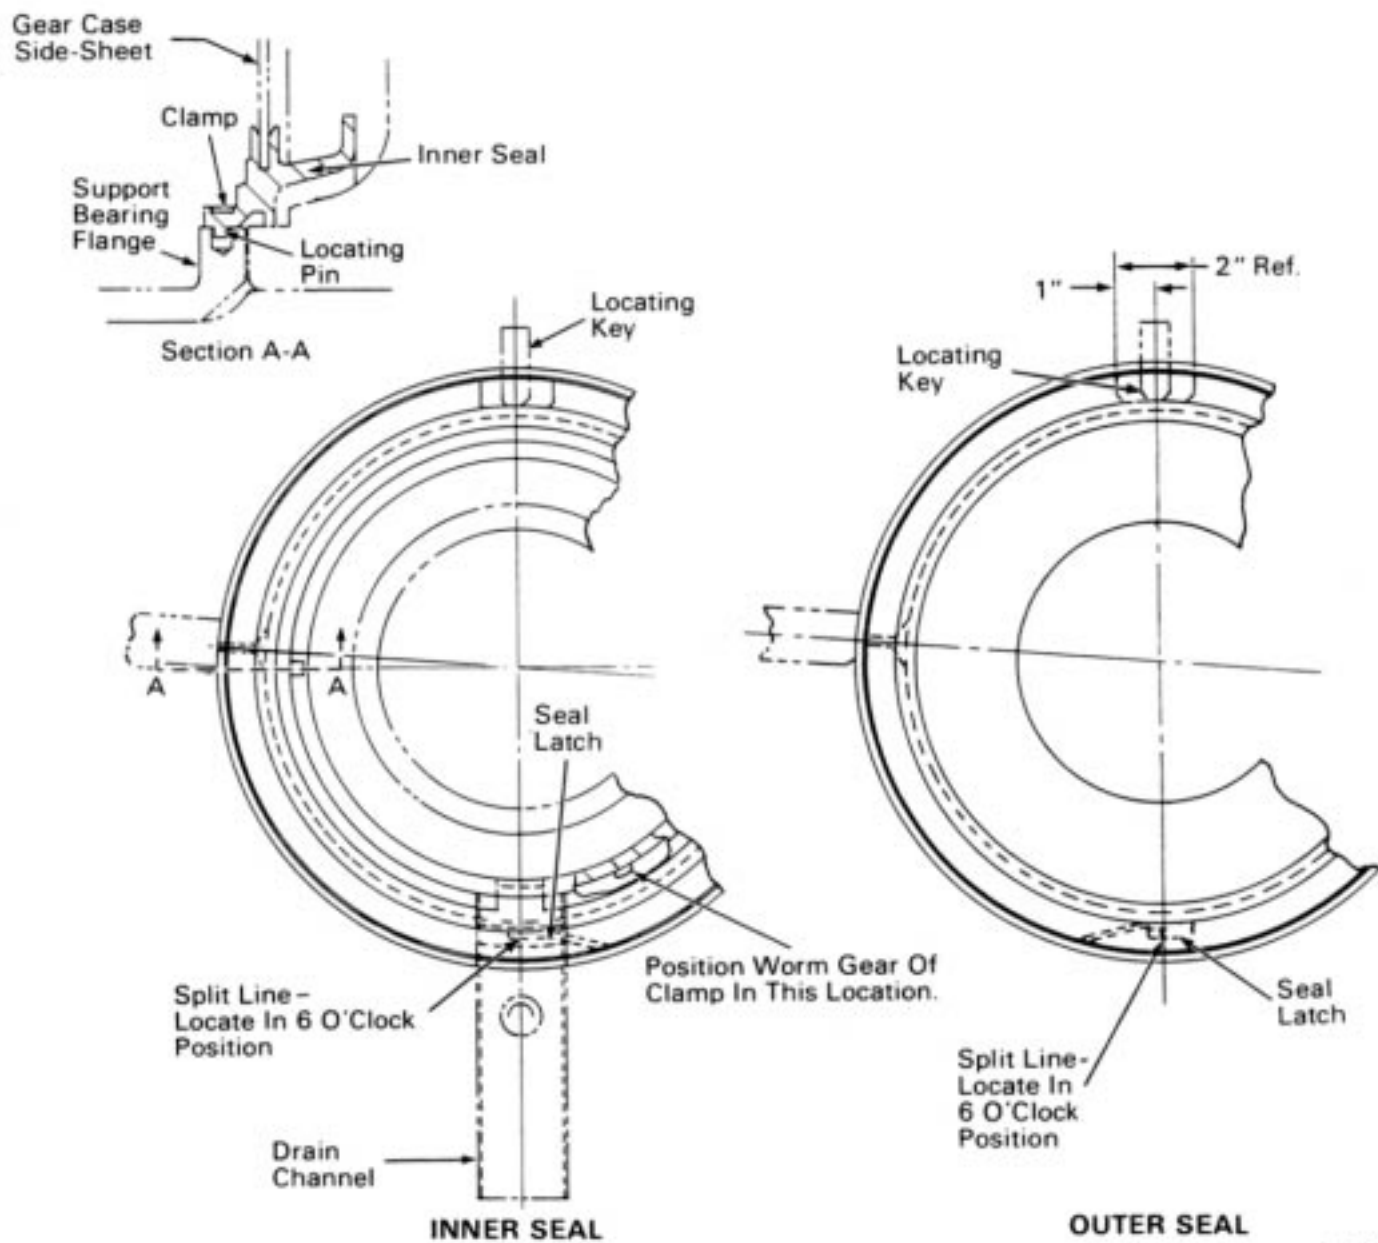

Fig.11 - Plastic Seal Position On Gear Case
4. Position the seal latches at the 6 o'clock position, Fig. 11. The pins on the inner seal should be engaged with the holes in the support bearing flange. The notch on each seal should engage with the locating keys on the upper gear case when the case is installed. Ensure the lip on the outer seal will ride on the wheel hub and not folded under. Fasten the seal latches.
5. Apply seal clamp to the inner seal, holding the seal to the support bearing flange. Ensure the worm gear of the seal clamp is positioned as shown in Fig. 11 and tighten clamp. The clamp is tightened down completely after the gear case is installed.
4. On current model gear case, carefully install upper gear case, making sure the locating keys engage the slots in the plastic seals, as shown in Fig. 11. Ensure the gear case side-sheets engage the circumferential groove in each seal. If the gear case side-sheet falls outside the groove, the gutter of the seal will be pushed against the gear web, causing severe leakage.